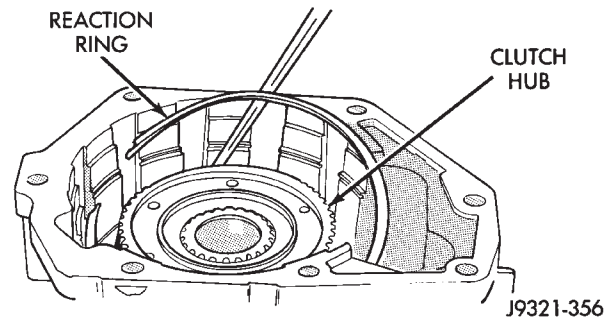

Fig. 201 Overdrive Clutch Reaction Snap Ring Removal/Installation
- (2) Remove overdrive clutch reaction snap ring (Fig. 201). Note that snap ring is located in same groove as wave spring.